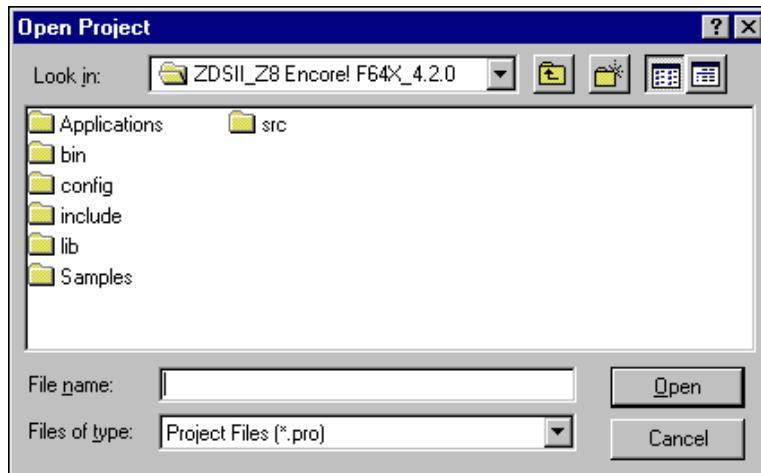

Figure 10. Open Project Dialog Box
4. Select Open Project from the File menu. The Open Project dialog box appears. See Figure 10.